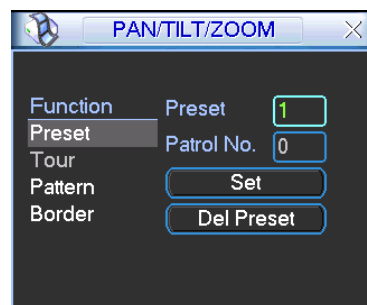
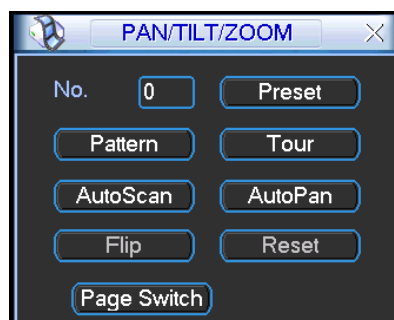

Figure 4-46
Figure 4-47
In Figure 4-43, please click the “set” button. The interface is shown as below. See Figure 4-46. Here you can set the following items:
In Figure 4-43, click page switch button, the interface is shown as in Figure 4-47. Here you can activate the following functions:
- z The following setups are usually operated in the Figure 4-43, Figure 4-46 and Figure 4-47.
In Figure 4-46, click preset button and input preset number. The interface is shown as in Figure 4-48.
In Figure 4-47, please input preset number in the No. blank, and click preset button.
In Figure 4-46, input patrol (tour) number in the No. blank and click patrol button
In Figure 4-46, click pattern button and then click “begin” button. The interface is shown as in Figure 4-50. Then you can go to Figure 4-43 X to modify zoom, focus, and iris.
In Figure 4-47, click “Auto Scan” button, the system begins auto scan. Correspondingly, the auto scan button becomes Stop button. Click stop button to terminate scan operation.
In Figure 4-47, click page switch button, you can see an interface is shown as below. See Figure 4-52. Here you can set auxiliary function. The aux value has relationship with the Aux button of the decoder.